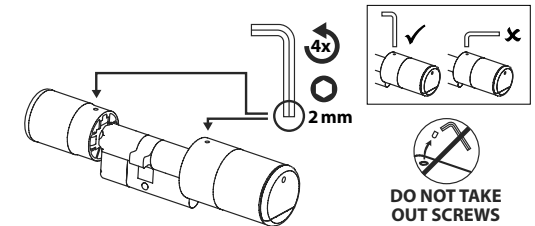

Fig. 2
② The loosening and fixing of the outer and inner knob is achieved by means of an integrated grub screw in the rotary knob. Loosen the two grub screws in the two knobs with the enclosed hexagonal spanner (Fig. 2).